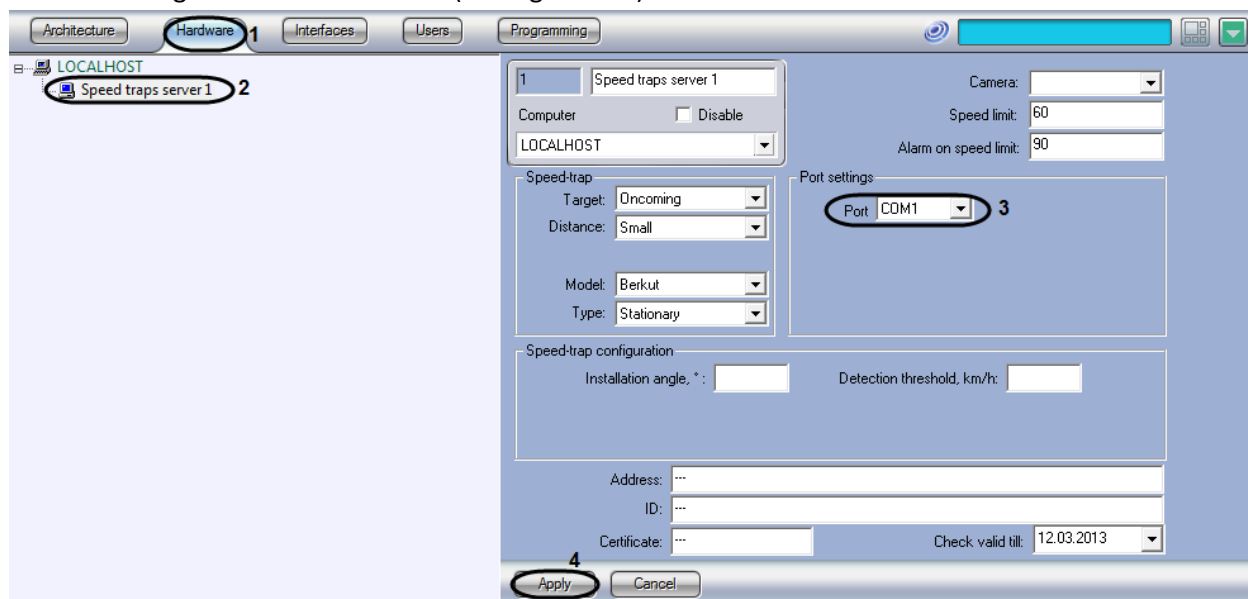

Fig. 7.3—1 The Speed-trap server object settings panel
2. In the object tree on the left side of the Hardware tab, select the Speed-trap server object representing the Radar module to be set up. The settings panel of the selected object will open on the right side of the window (see Fig. 7.3—1).